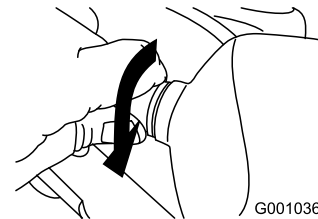

Figure 64
5. Turn the base of the bulb clockwise until it is snug (Figure 64).